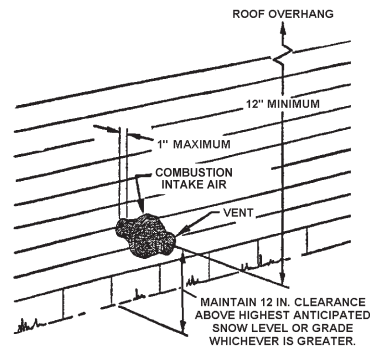

FIGURE 24.
PROCEDURE 2 SIDE WALL TERMINATION, SEE FIGURE 24.
6. Secure assembly to structure as shown in Figure 24 using field-supplied metal strapping or equivalent support material.
NOTE: Ensure termination location clearance dimensions are as shown in the diagrams found in Figure 24 and 25. When extending the length of the 4" pipe, the added length beyond 21-1/8" must be deducted from the maximum equivalent feet of vent pipe.